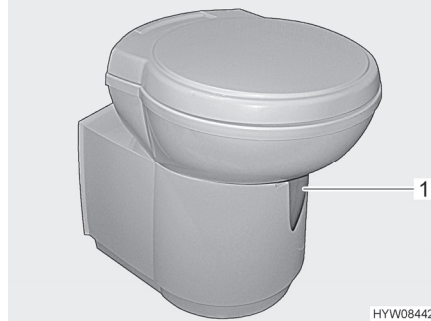

Fig. 82 Thetford toilet bowl (swivelling)
- Before flushing open the sliding trap of the Thetford toilet. To do this, push the slide lever (Fig. 82,1) in an anticlockwise direction.